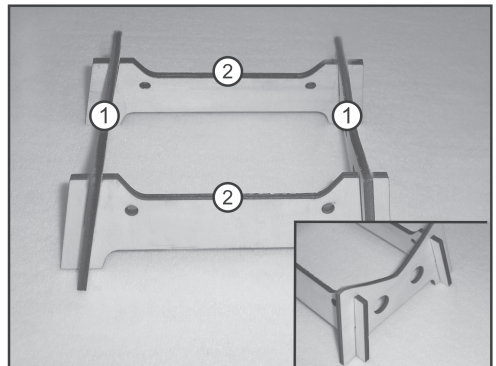

Figure 4
Build the boat rack of the four wood parts as shown in figure 4.
The side parts (figure 4, item 1) must be built so that the wide side points down.
The side parts are attached into the long parts (figure 4, item 2).